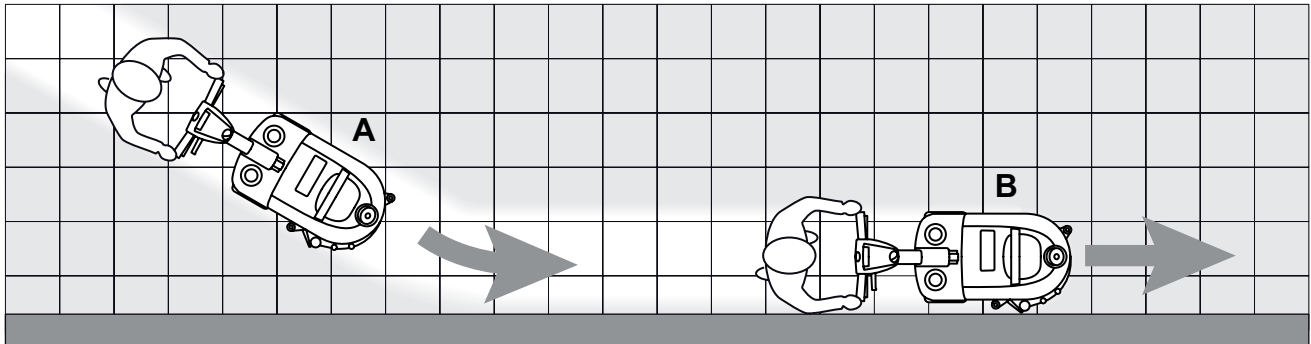

Figure 2
*For correct scrubbing/drying of floors at the sides of the walls, Clarke suggests to go near the walls with the right side of the machine as shown in figure 2.*